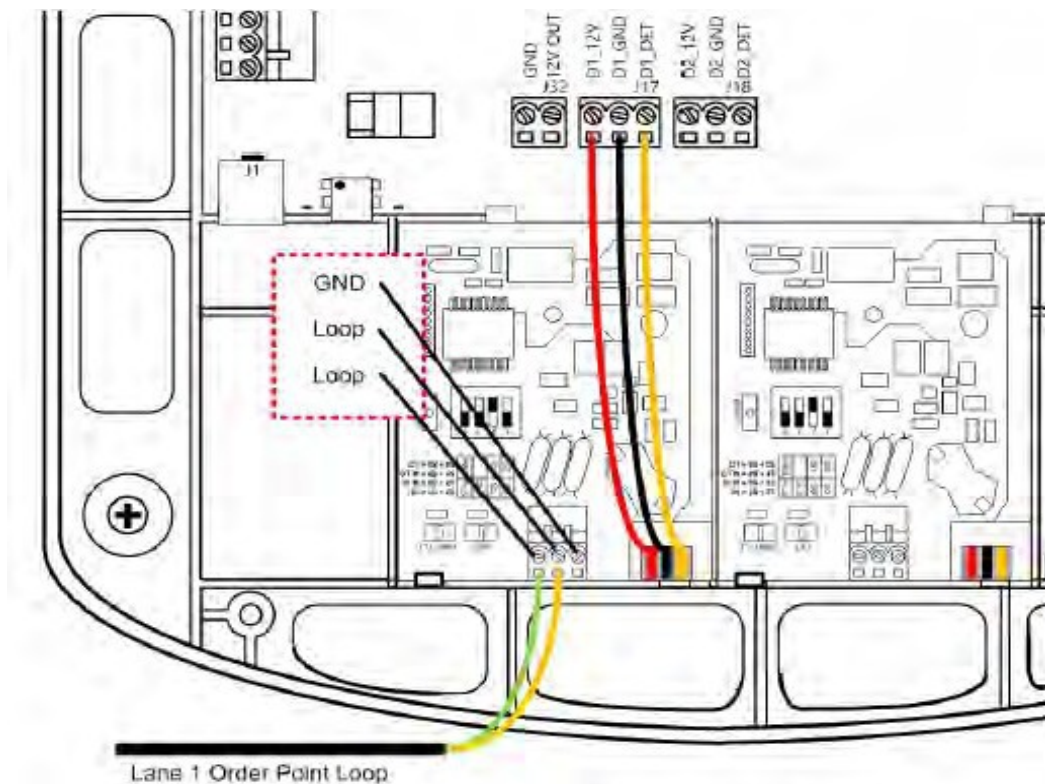

Figure 19.
- Carefully install the three wires between the vehicle detector board and the basestation board (see Figure 19). The left-to-right pin order is the same on both boards: the left pin on one corresponds to the left pin on the other.